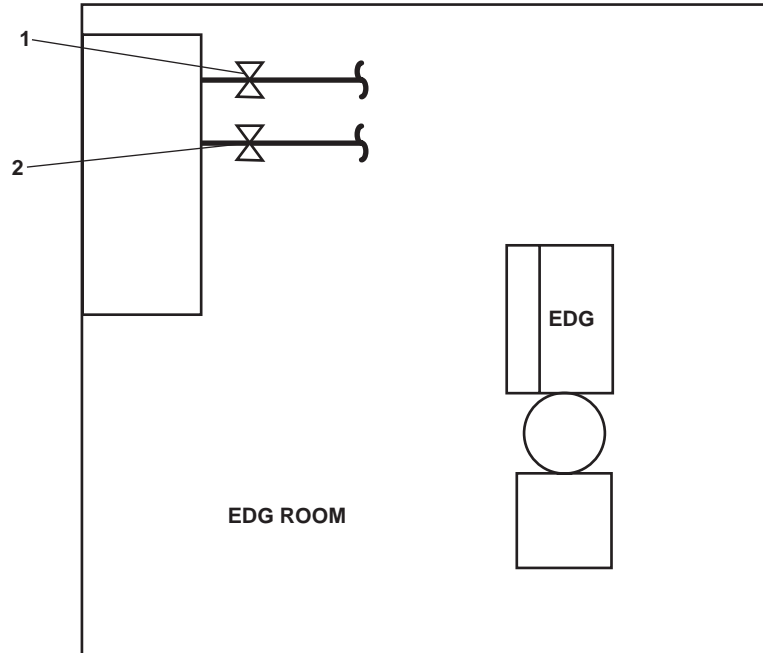

Figure 3. EDG Day Tank Valves
- a. FO-32, F.O. SPLY TO ENG valve (figure 3, item 1)
- b. FO-12, E.D.G. DAY TK FILL valve (figure 3, item 2)